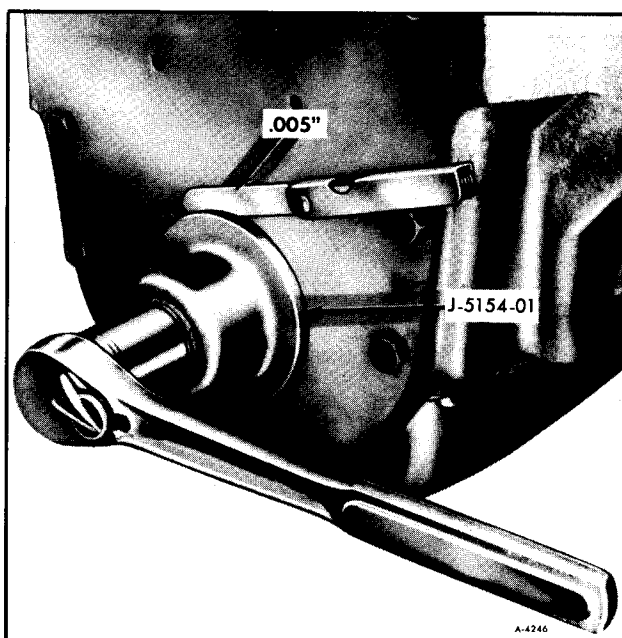

Figure 55—Front Cover Oil Seal Installation
2. Using Tool J-5154-01, install oil seal as shown in Figure 55. Tighten until .005" feeler gauge will fit between front cover and tool.